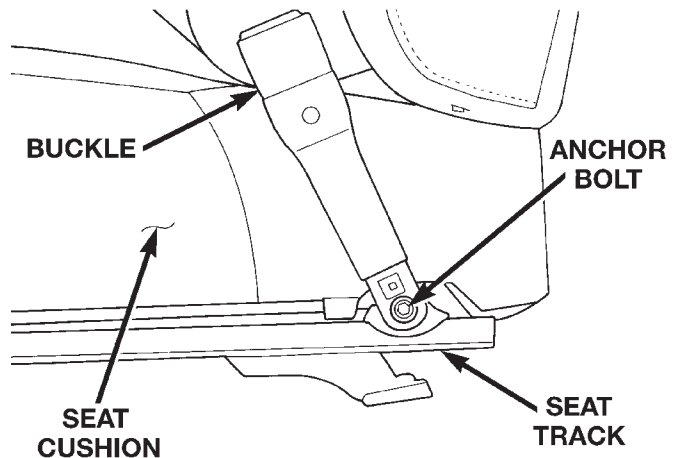

Fig. 3 Buckle Anchor Bolt
- (1) Remove seat.
- (2) Remove the anchor bolt attaching the buckle to the seat track (Fig. 3).
- (3) Remove the screw attaching the recliner handle to the recliner mechanism.
- (4) Disengage the rearward corner J-straps.
- (5) Disengage the side J-straps.
- (6) Disengage the front J-strap.
- (7) Disengage the rear J-strap.
- (8) Disengage hook and loop fasteners.
- (9) Separate the cushion/cover from the frame.